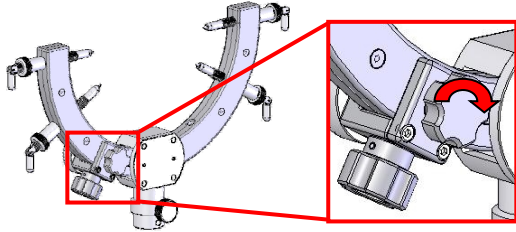

Figure 2
2. Screw the Position Fixing Screw of the NV Adaptor (Figure 2) so that the NV Adaptor is fixed and does not move in any direction.